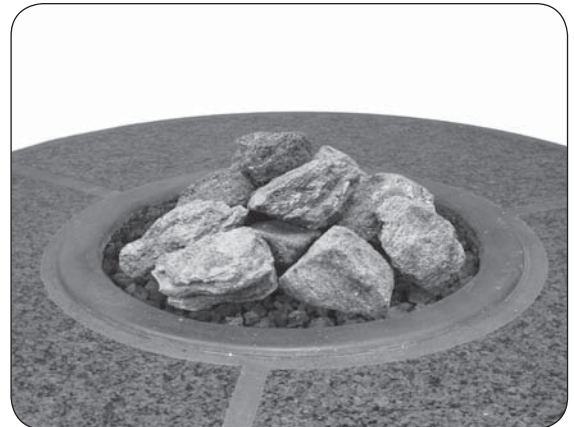

Fig. 23-2 Volcanic stone option
2. Pour the volcanic stone evenly into the burner area (see Fig. 23-2). The stones may form a mound. **Store any excess media in a safe location.**